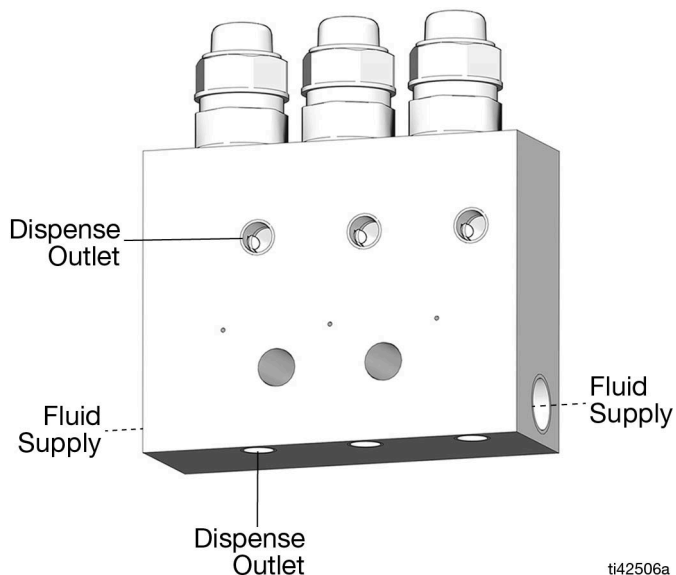

FIG. 2
7. Install the main fluid supply line fittings to the fluid supply ports on the manifold (FIG. 2).